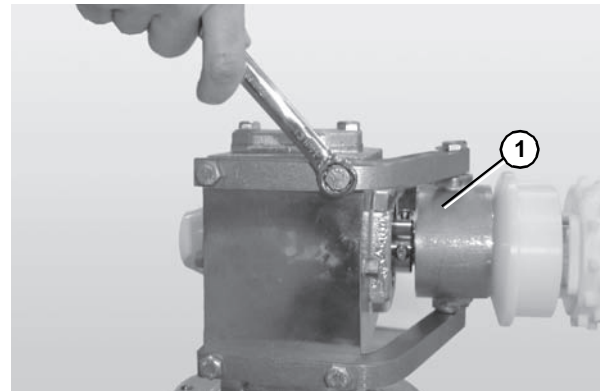

Figure 62
4. Unbolt the drive assembly and slide it off the bearing spindle (**Figure 62, item 1**). Retain key from spindle keyway.